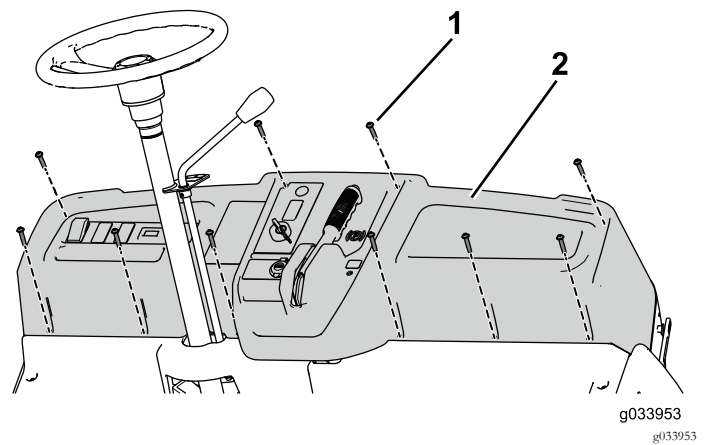

Figure 81
5. Use the 10 screws (1/4 x 1-1/4 inches) to secure the dashboard to the machine (Figure 81).